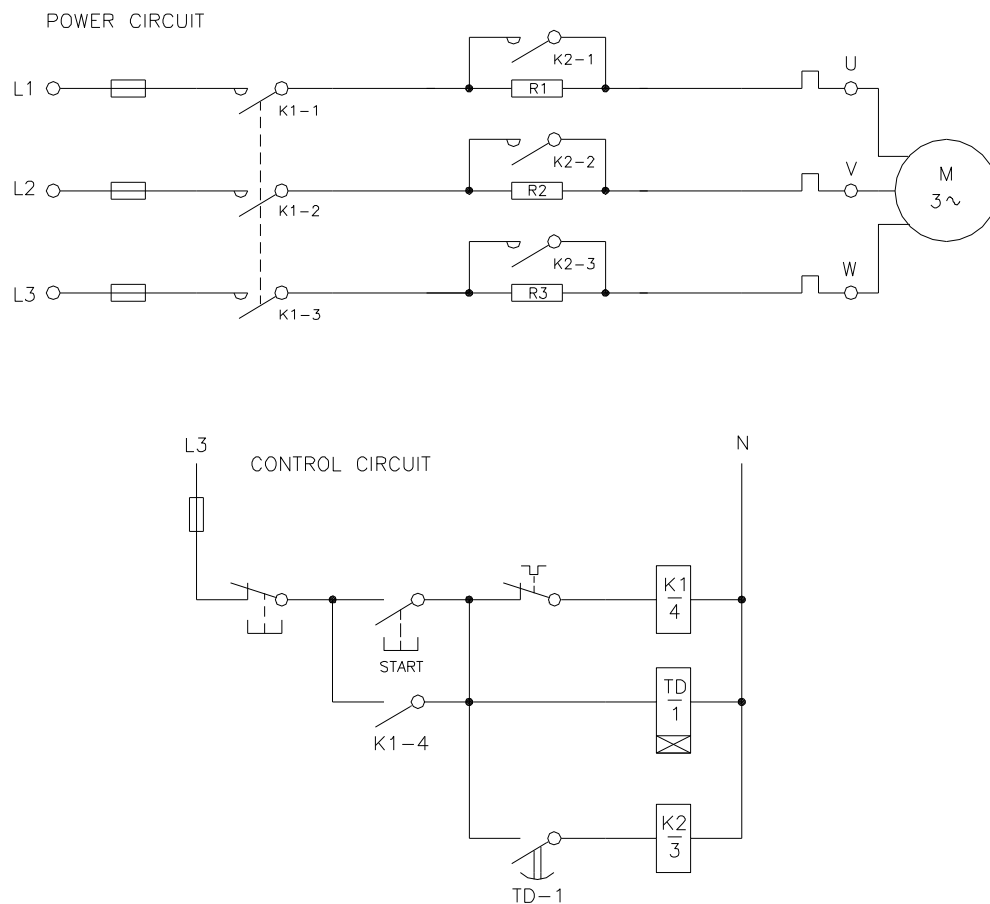

Figure 1 - A one step primary resistance starter circuit.
2. The line resistors can be cut out in steps to provide controlled acceleration if a suitable control circuit is used. Figure 1 show a typical circuit for a one step primary resistance starter.
- Figure 2 shows a circuit diagram of a typical two-step primary resistance starter. If you compare this circuit with the one in Figure 1, you will see that they are very similar - the two-step starter has an additional bank of series resistors in the power circuit and an additional timing stage in the control circuit. Other steps could be added to provide a smoother acceleration if required.